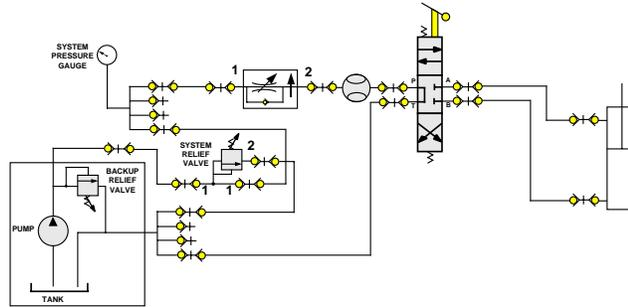

Fig. 3.7.7 Circuit
1. Construct the circuit shown in Figure 3.7.7 include the 1 1/16" bore cylinder.